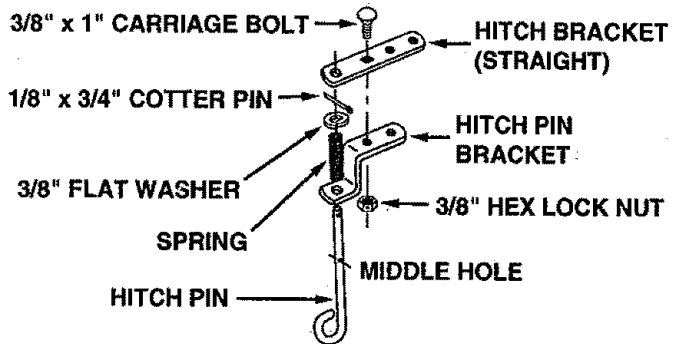

FIGURE 3
- Assemble the hitch pin bracket, the spring and the 3/8" flat washer onto the hitch pin. Secure them onto the hitch pin with a 1/8" x 3/4" cotter pin placed into the middle hole in the hitch pin. Spread ends of cotter pin around hitch pin. See figure 3.
- Assemble the hitch pin bracket to the straight hitch bracket using a 3/8" x 1" carriage bolt and a 3/8" hex lock nut. Align the brackets and **tighten.** See figure 3.